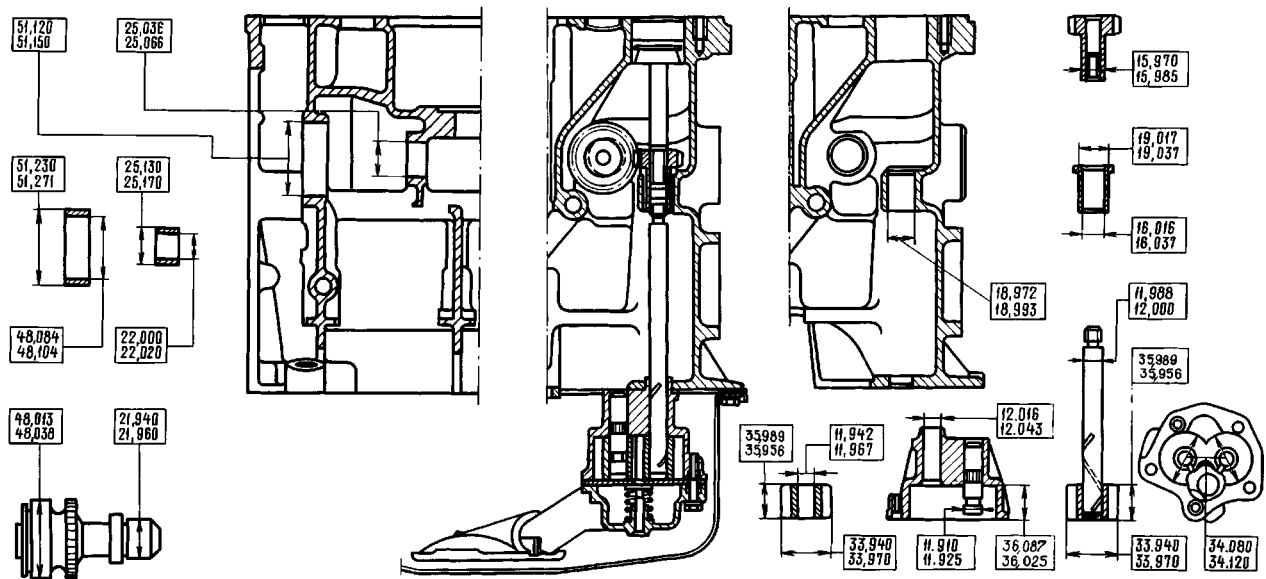

Fig.2-68. Basic dimensions of the oil pump components and associated parts
The basic dimensions of the pump components and its linkage are shown in Fig.2-68.
- after pressing in, the bushes are machined to the final inner diameter (Refer to Fig.2-68 for the sizes). For optimum concentricity of the shaft bushes, use the finishing reamer A.90353 for concurrent machining of both bushes.